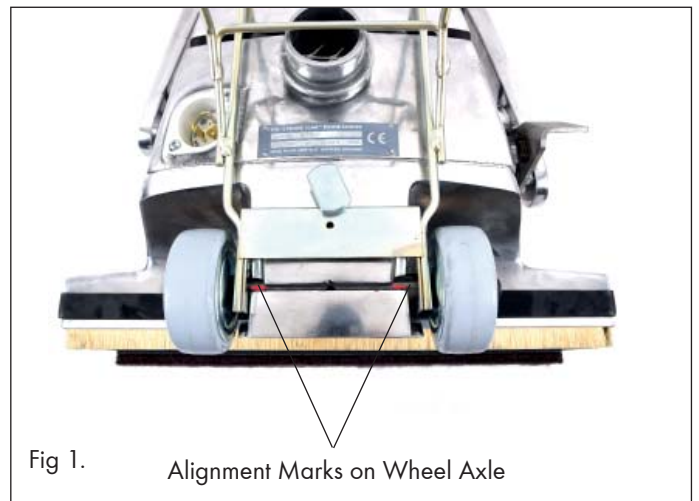

Fig 1. Alignment Marks on Wheel Axle
3. Note the position of the black alignment marks on the wheel axle as illustrated in Fig 1.